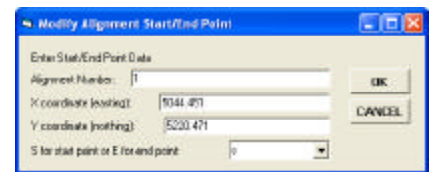

Figure 11
- 2. As shown in Figure 11, click at the:
No parameter in the multi-input dialog of Figure 11 needs to be modified.
2. Enter the desired new coordinates and as shown in Figure 11, click at the:
The only parameters that should be modified in the multi-input dialog of Figure 11 should be the coordinate values (data lines 2 and 3).
2. As shown in Figure 11, click at the: